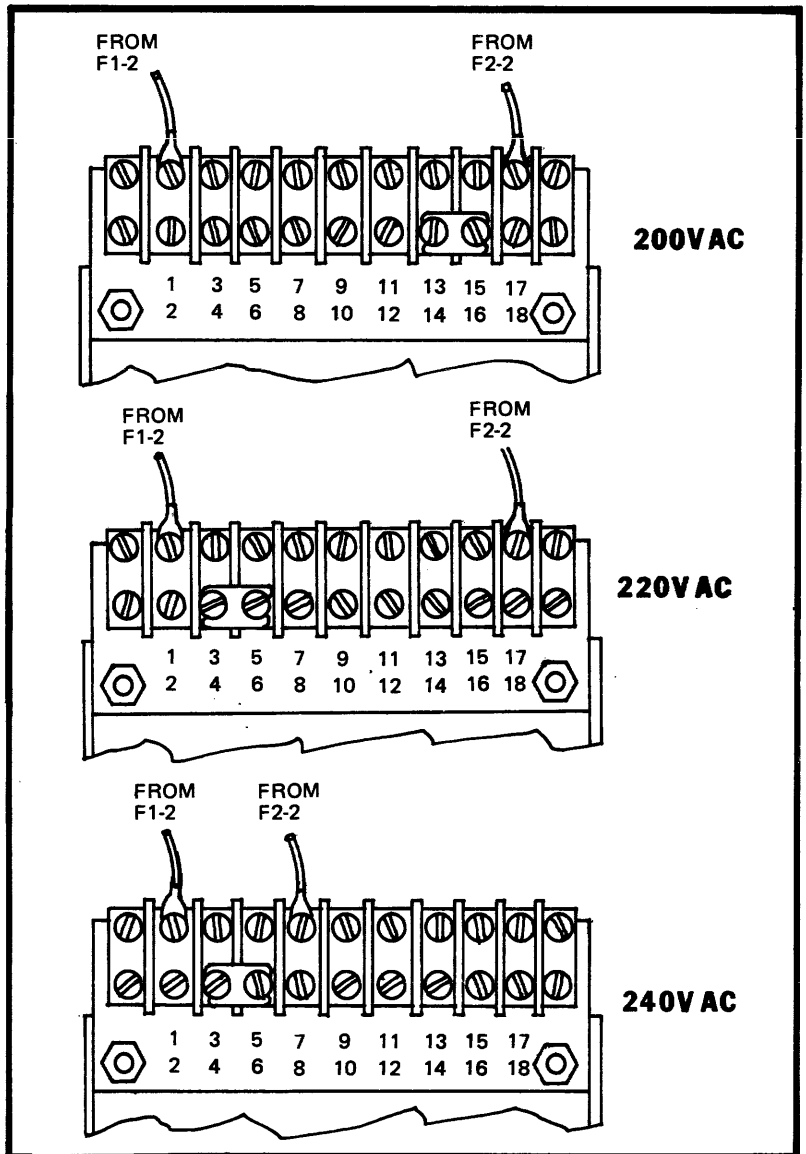

Figure 23. Transformer Connections for 200V/220V/240V
- Connect wire from fuse terminal F2-2 to the appropriate transformer tap indicated in figure 23.
- Install transformer tap jumper as indicated in figure 23.